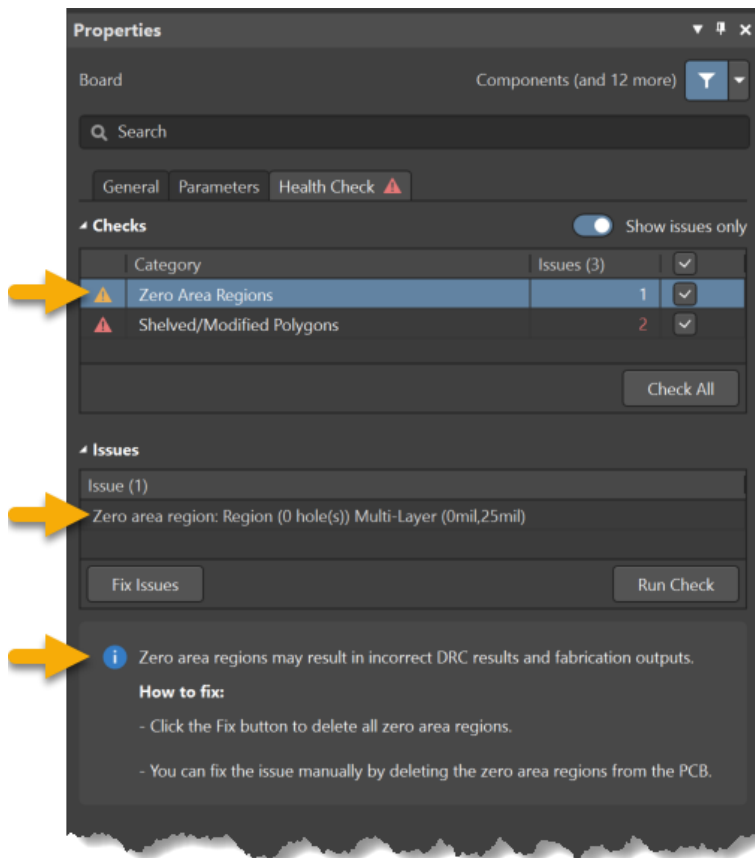

Figure 2. PCB Health Check with reported Issue
- a) Select the issue to jump to the Board Area where the Zero Area Region exist, Figure 2.